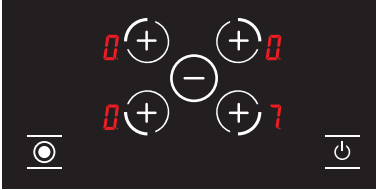

Figure 29
1. A dot mark • is displayed next to the power of the corresponding hotplate when both double oval hotplates are active. (See Fig. 29.)